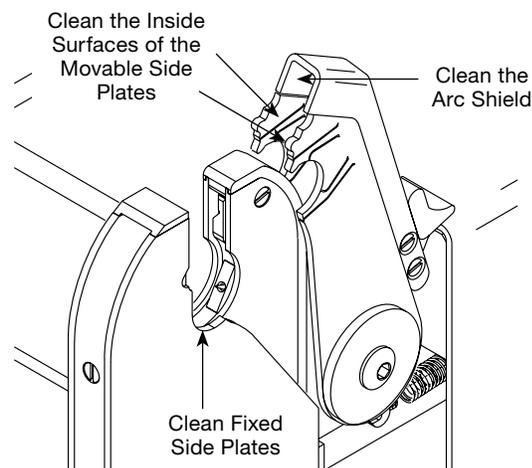

Figure 40 Inspecting Side Plates and Arc Shield
2. Use a stainless steel wire brush to clean the collet surfaces of the side plates that contact the work. See Figure 40.